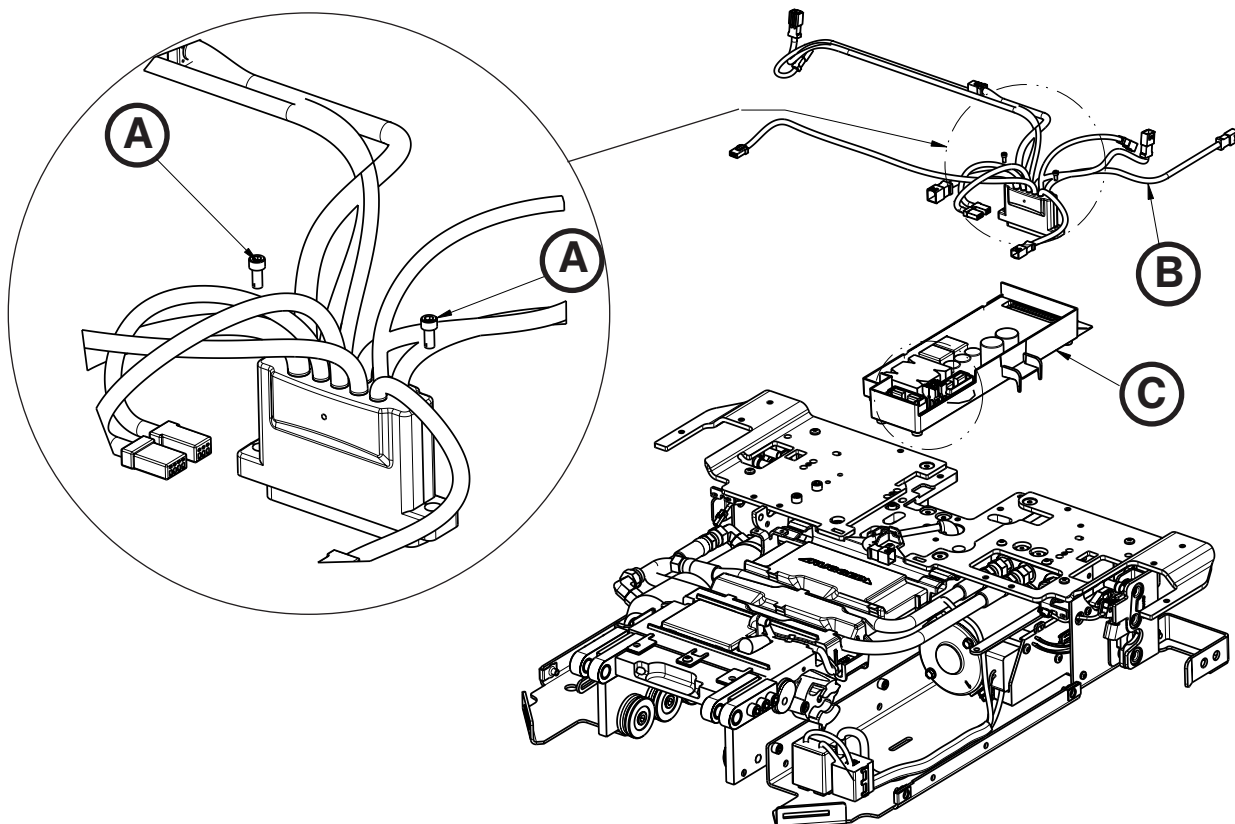

Figure 66
2. Using a 3/32" hex wrench, loosen (do not remove) the two screws (A) that secure the main cable assembly (B) to the control board assembly (Figure 66).
3. Unplug all of the other cables from the control board assembly (C) and then remove the control board assembly (Figure 66). Discard the control board assembly.